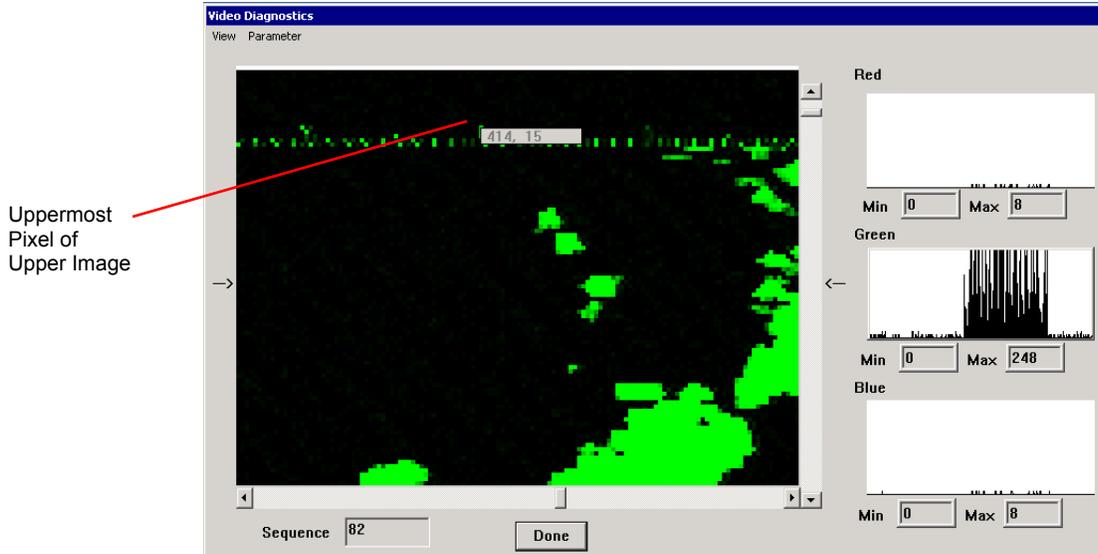

Figure 10-10 - Uppermost Pixel Coordinates – Upper Image
5. Zoom in on the upper image (using, for example, a 4X zoom) and find its uppermost pixel. Once that pixel has been located, right-click to acquire its x and y coordinates (see *Figure 10-10 - Uppermost Pixel Coordinates – Upper Image.*)